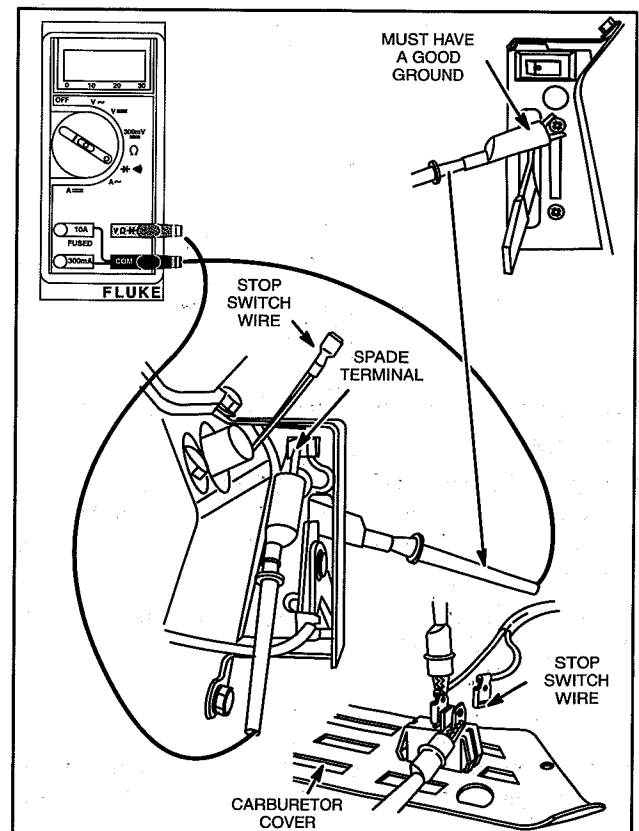

Fig. 16 – Testing Rocker Stop Switch
5. Attach either meter test lead to spade terminal. Attach other lead to switch mounting surface or a good ground Fig. 16.